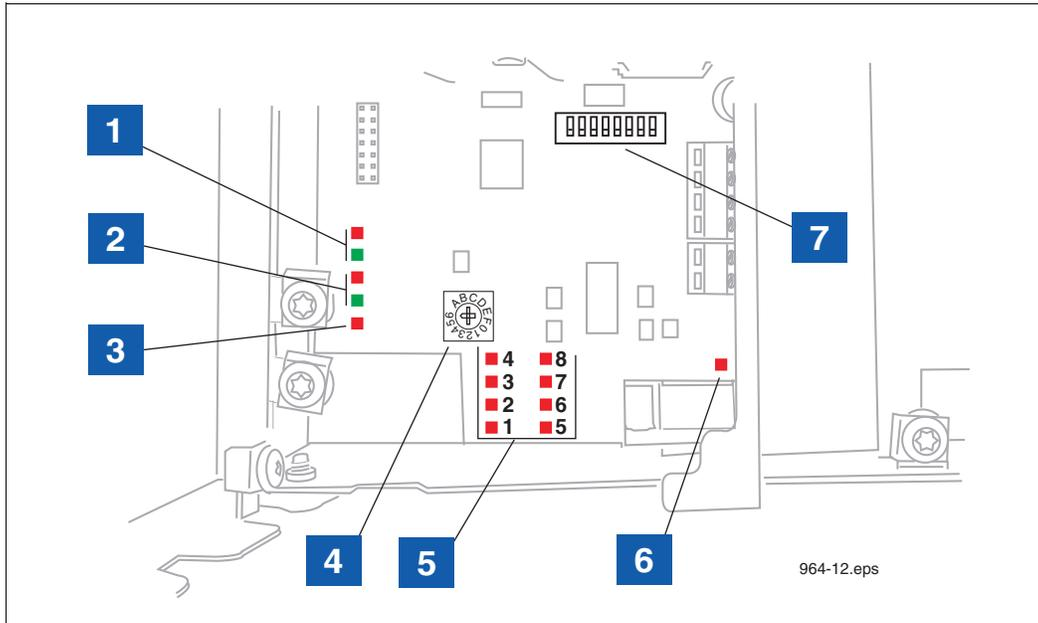

Figure 12. TLS RF diagnostic LEDs and switch locations
- a. Plug the TLS RF's ac power cord into a 120 Vac outlet. Confirm the Green /Red LEDs (refer to item 2 in Figure 12), are flashing rapidly. This is an indication there is RS-485 network activity between the TLS RF and the Receiver.
- c. If it is not, check PWR LED (refer to item 3 in Figure 12), if not lit; check power wiring. If the wiring is correct, measure the voltage across the twisted pair power wires, it should read +15Vdc. If it is not, the TLS RF is bad.
- d. If the Red LED (refer to item 2 in Figure 12) is not flashing, confirm the TLS RF address is set to Master (refer to Appendix B, Figure B-1 on how to set the TLS RF Device ID). If it is, the TLS RF has failed.
- b. Go to the TLS RF, open its cover. One of the 8 Red received LEDs should be flashing (refer to item 5 in Figure 12). Observe which LED is lit and compare it against the Transmitter ID; they should match. For example, if the Transmitter ID is set to 1, the LED number 1 in the TLS RF should be flashing.
2. In this example, device output 1 is a Flow Meter - Observe polarity. Note: each time a transmission is received from this device, LED 1 (see item 5 in Figure 12) will flash.
3. In this example, device output 2 is a Flow Meter - Observe polarity. Note: each time a transmission is received from this device, LED 2 (see item 5 in Figure 12) will flash.
Figure 12 locates the diagnostic lights and setup switches in the TLS RF.
LEGEND FOR NUMBERED BOXES IN Figure 12